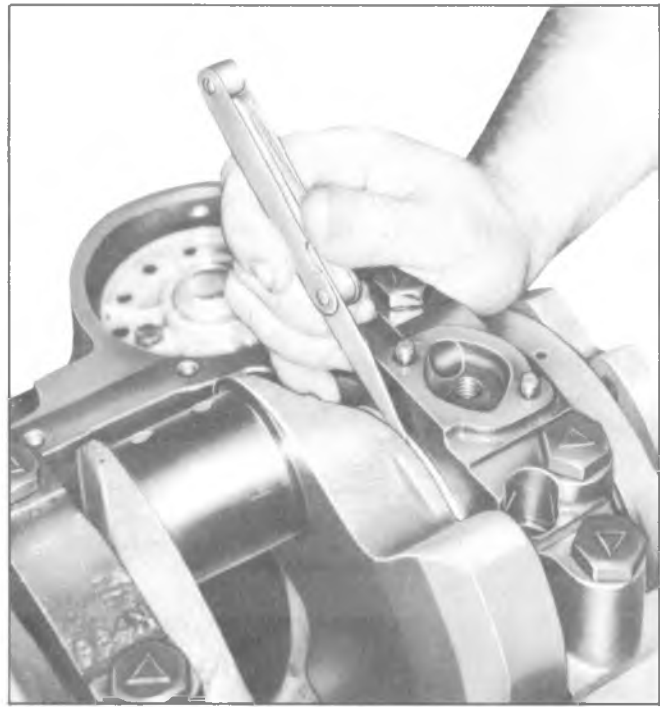

Fig. 6A-61V—Measuring Crankshaft End Play
9. Measure crankshaft end play (see specifications) by forcing the crankshaft to the extreme front position. Measure at the front end of the rear main bearing with a feeler gauge (fig. 6A-61V).